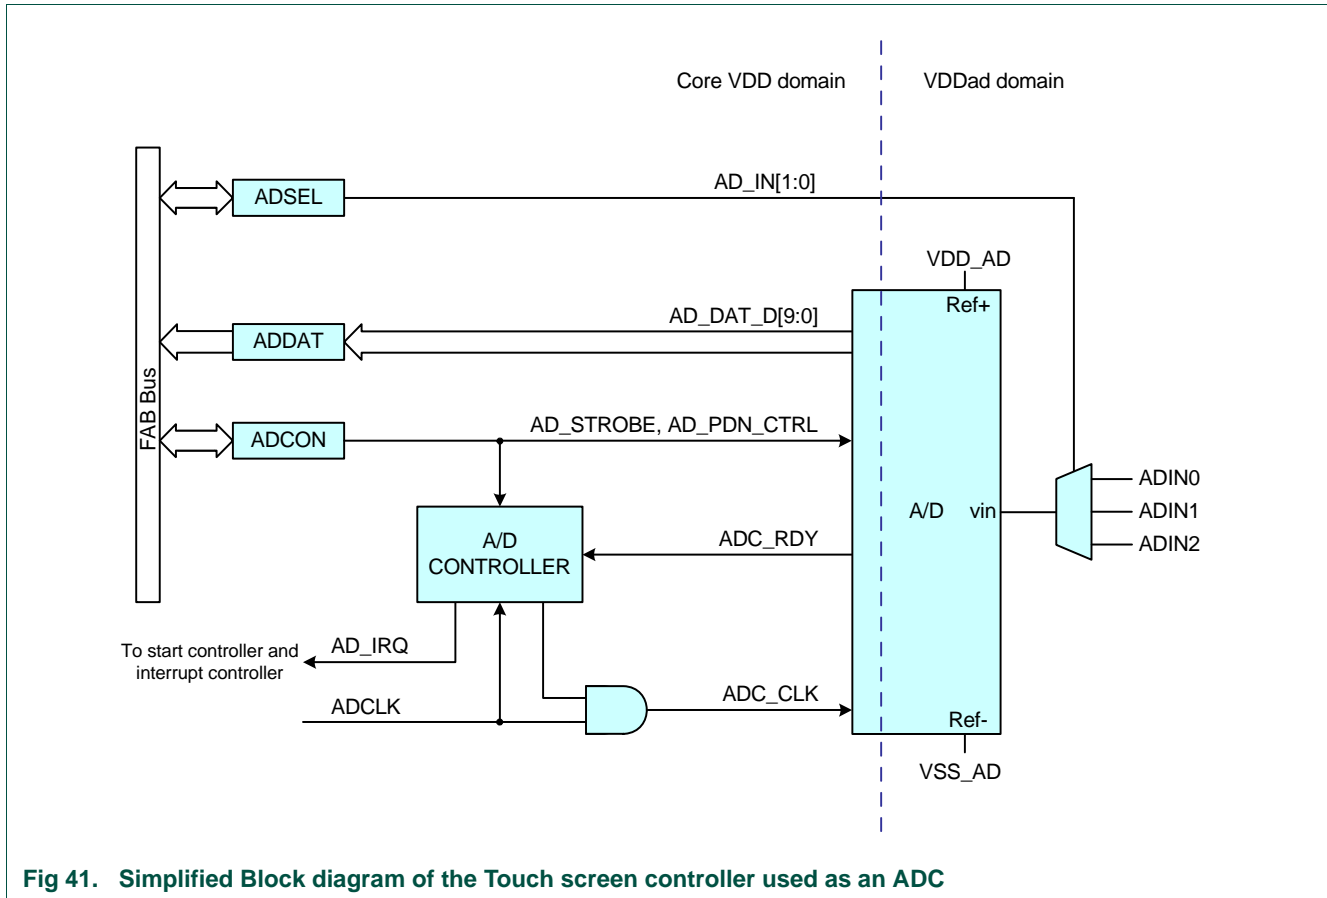

Fig 41. Simplified Block diagram of the Touch screen controller used as an ADC
Figure 41 shows the block diagram of the A/D Converter.
- Wait for an A/D interrupt signal from AD\_IRQ (see Figure 41), or poll the raw interrupt bit 7 in the SIC1\_RSR register to determine when the conversion is complete.